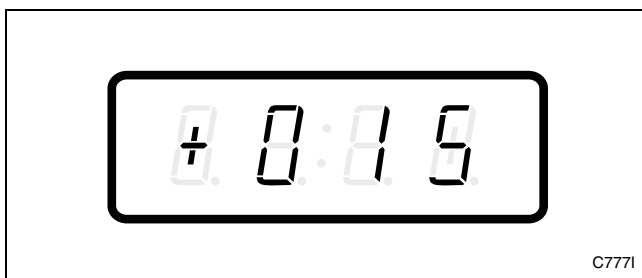

Figure 63
3. Press the LOW TEMP (+) or the NO HEAT (-) keypad to scroll through the programmable options until "+015" appears in the VFD. Refer to *Figure 63*.